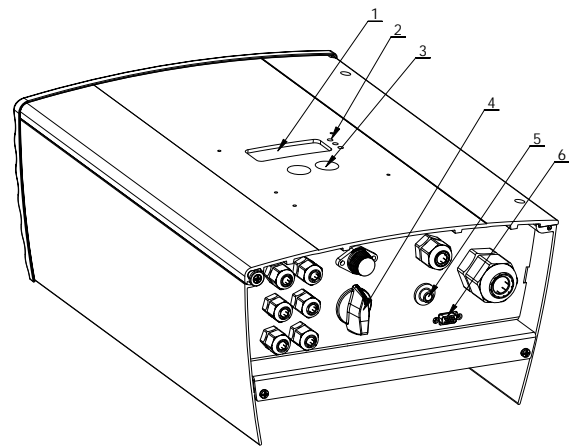

Figure 4.1: Overview of the Powador
To disconnect the inverter from the photovoltaic generator, turn the internal DC isolator on the underside of the inverter from the ON (1) position to the OFF (0) position (see figure 4.1).